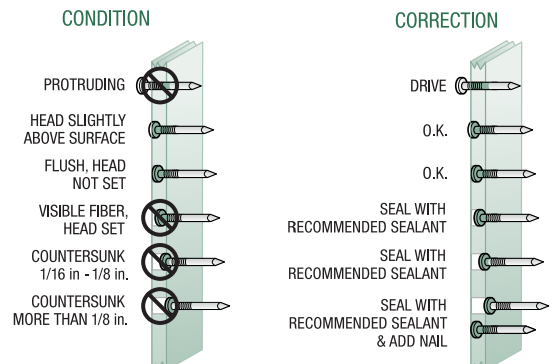

FIG. 1
- Nails must penetrate wood framing 1-1/2 in. *See Fig 1.*
- Avoid countersinking nails or rupturing the surface of the siding. If countersink occurs, seal nail prior to painting. *See Fig 1.*
- Seal around all openings such as window and door frames and at butt joints. Seal all overdriven nails. See Fig 1.